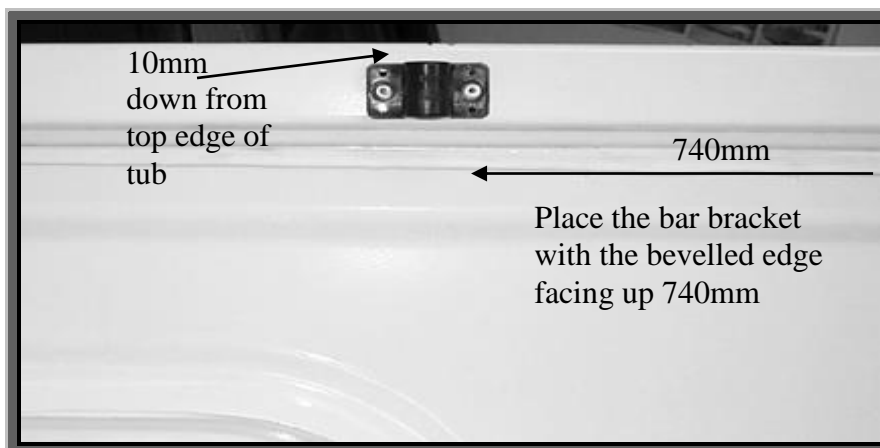

Figure 5
8. Centrally locate the bar bracket over this position and align the top of the bar bracket 10mm down from the top edge of the tub and drill and rivet bracket into place. **See Figure 5**. Repeat for other side of tub.